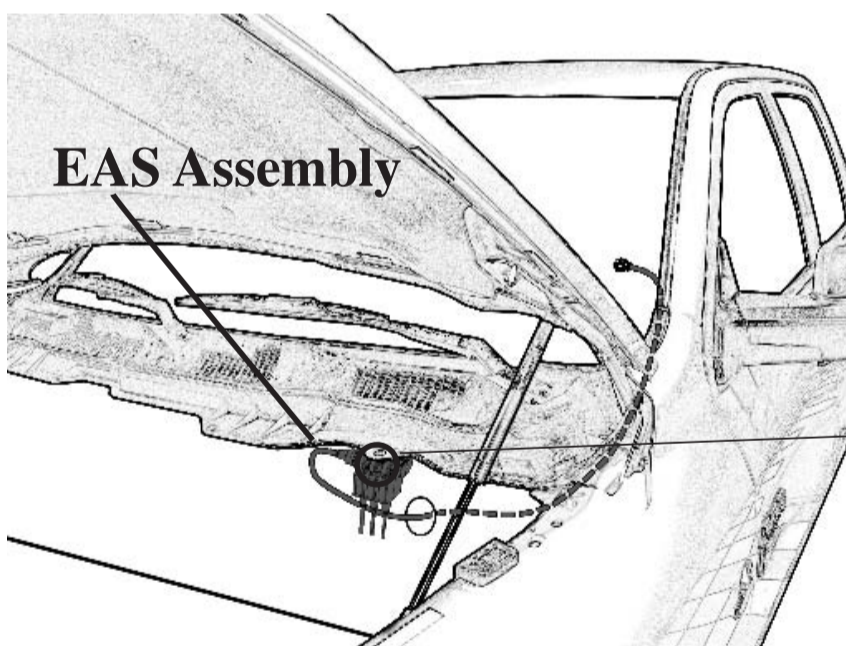

Figure 42 - TRUCK VIEW
1) Using the supplied zip ties, fasten the EAS connectors underneath the overhang which runs across the top of the fire wall. (Figure 42 & 43)